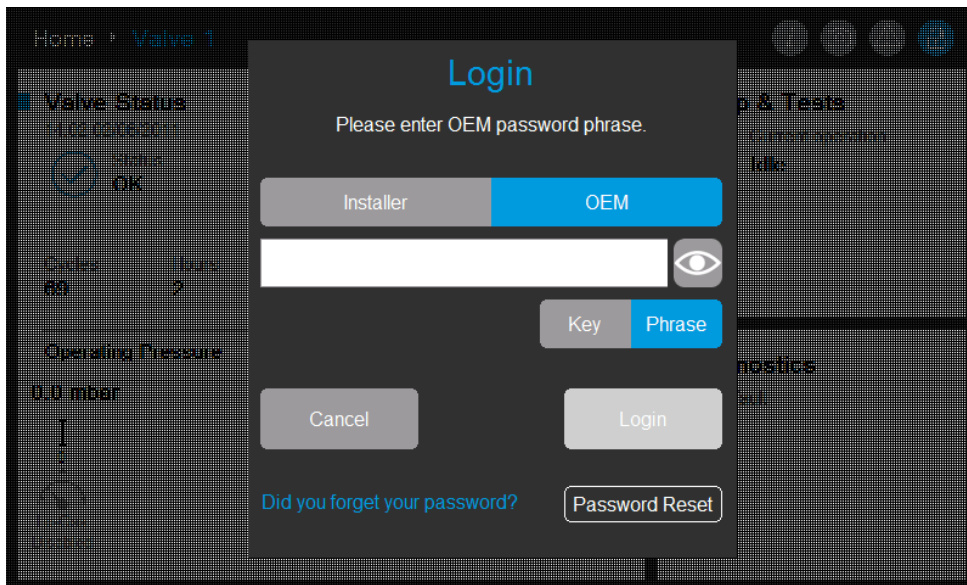

Fig. 75: Login dialog box.
- a. Enter the new password by selecting the blank field and entering it when the keyboard pops up. Refer to Fig. 75.